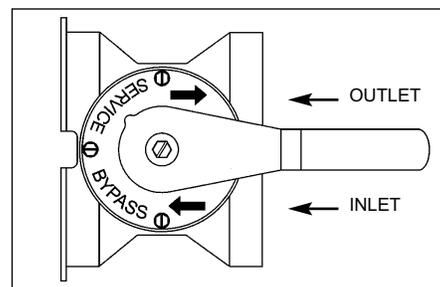

Figure 7
11. Wait approximately four (4) hours for water in brine tank to fully dissolve salt.
12. Move the bypass valve to the normal service position. (See page 5, Figure 7)
Stainless Steel Bypass (Figure 7)